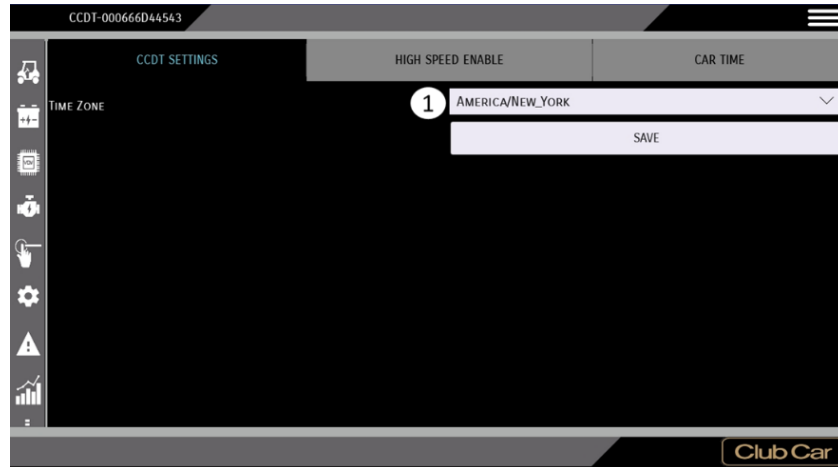

Figure 16 Time Zone Setting Screen
1. Tap on the “Time zone” list. (“1” in figure 16)
1. Tap on Unlock High speed code entry (“1” in figure 16)